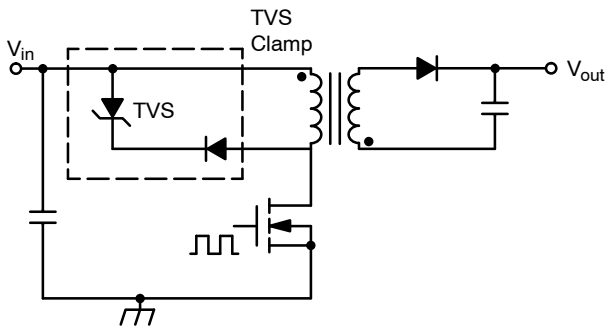

**Figure 47. Typical Drain Voltage Waveform of a Flyback Main Switch**
- In a single stage converter, one FET processes all the power – that is both a benefit and a limitation as the stress on that main MOSFET is relatively higher. Similarly, the magnetic component (flyback transformer/inductor) can not be optimized as well as in the 2–stage solution. As a result, potentially higher leakage inductance induces higher voltage spikes (like the one shown in Figure 47) on the MOSFET drain. This may require a MOSFET with a higher voltage